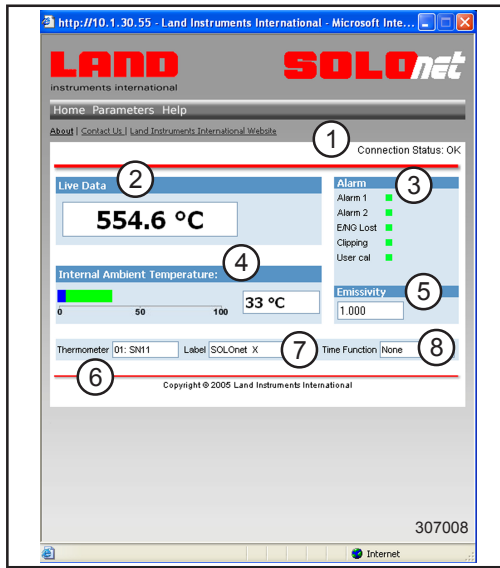

Fig. 8 - **SOLOnet** web interface ‘Home’ page
- The ‘Home’ page for that particular instrument opens (see Fig. 8).